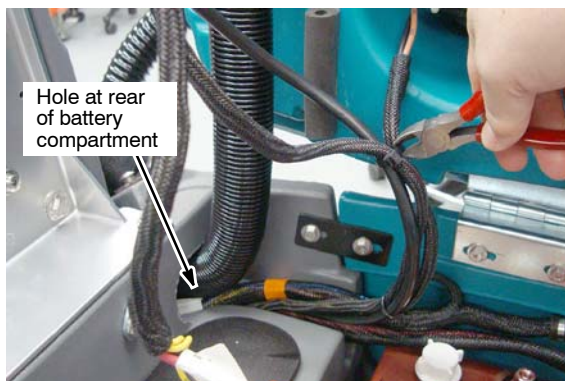

Fig. 4
4. Remove any wire-ties from charger harness and AC cord. Route charger harness and AC cord through hole at rear of battery compartment (Figure 4).